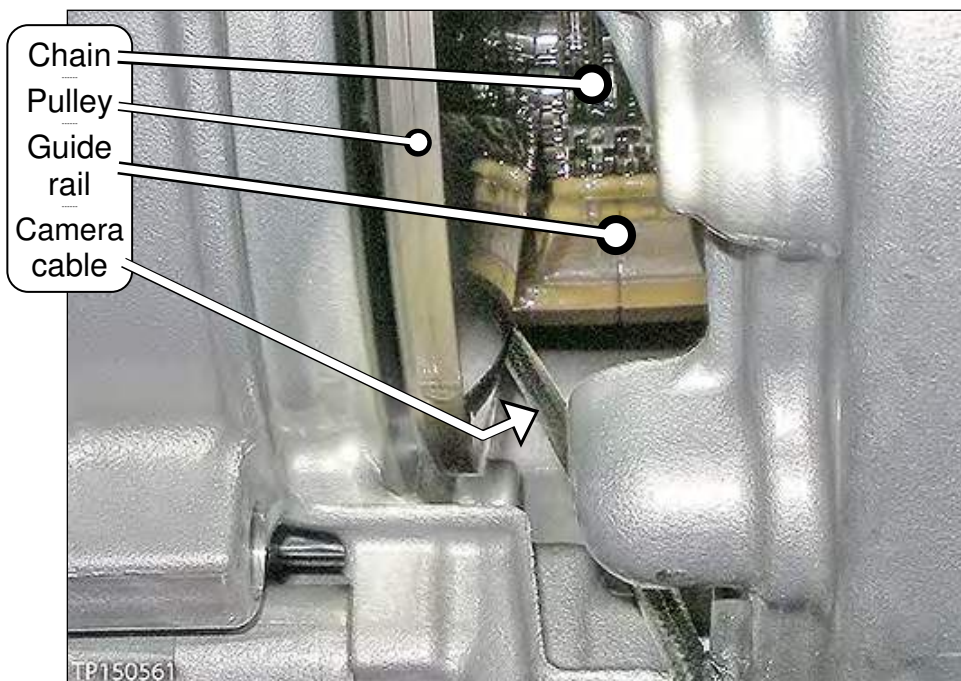

Figure 12
- Figure 12 shows where to insert the camera lens on the passenger side of the chain.